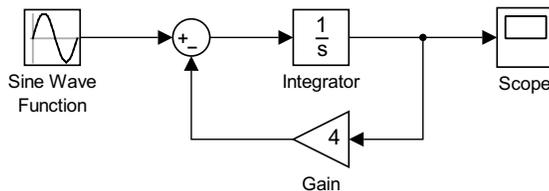

Figure 1.10: Connections for First Order ODE model for  $\frac{dx}{dt} = 2 \sin 3t - 4x$ .
- One can annotate the diagram by clicking near where labels are needed and typing in the text box. This leads to the model in Figure 1.10.